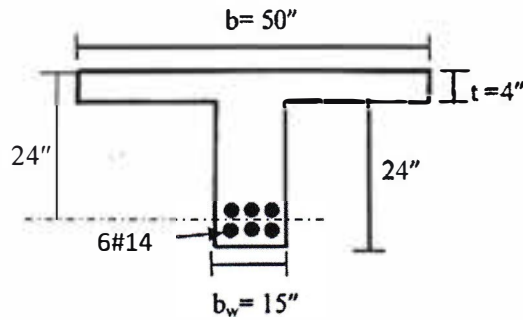

Figure: 2
6. Determine the design positive moment capacity of the following T-beam as shown in **Figure: 2**. (10)